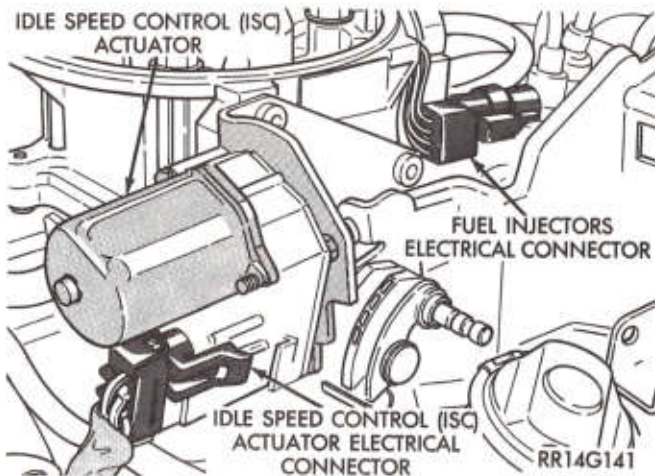

Fig. 15—Throttle Body Wiring Connections
(22) Verify that 4-way connector is attached to (ISC) actuator (Fig. 15).
(23) Verify that the 4-way connector is attached to the fuel injectors harness (Fig. 15).